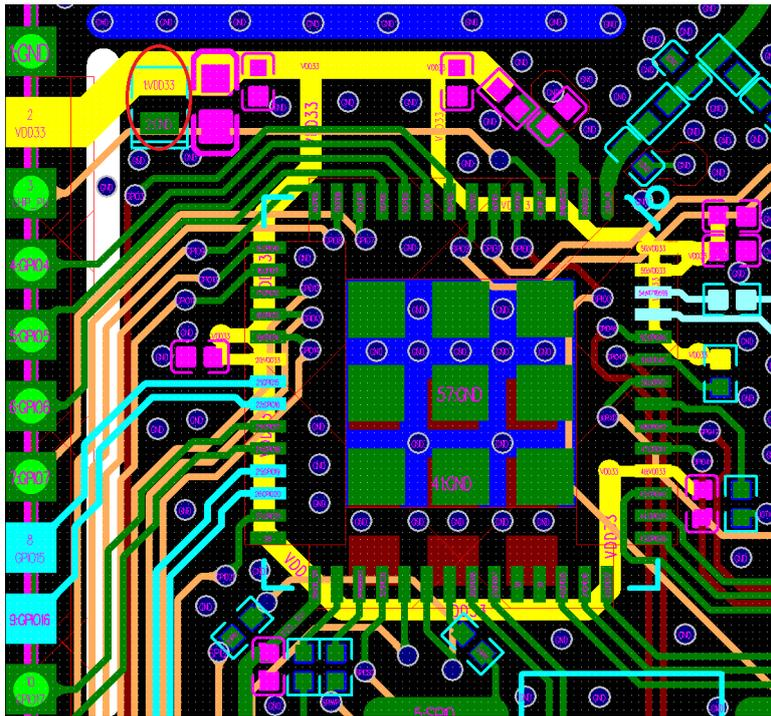

Figure 15: ESP32-S3 Power Traces in a Four-layer PCB Design
- The 3.3 V power traces, highlighted in yellow, are routed as shown in Figure 15. The width of the main power traces should be no less than 25 mil. The width of the power traces for VDD3P3 pins should be no less than 20 mil. Recommended width of other power traces is 10 mil.
- The ESD protection diode is placed next to the power port (circled in red in the top left quarter of Figure 15). The power trace should have a 10  $\mu\text{F}$  capacitor on its way to the chip, to be used in conjunction with a 0.1  $\mu\text{F}$  capacitor. Then the power traces are divided into two ways from here and form a star-shape topology, thus reducing the coupling between different power pins. Note that all decoupling capacitors should be placed close to the power pin, and ground vias should be added close to the capacitor's ground pin to ensure a short return path.